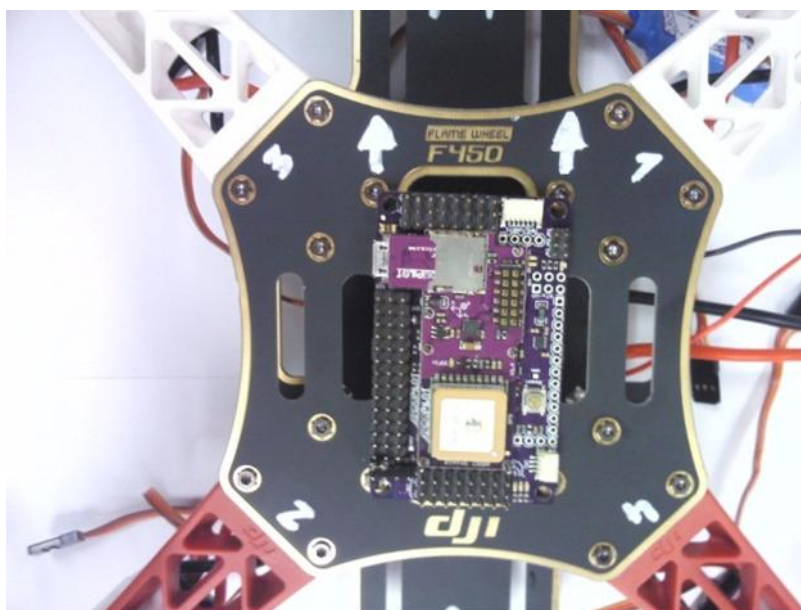

Figure 4 – Orientation of APM2 on Quad
- The APM2 must be placed so that it is facing forward as per Figure 4.